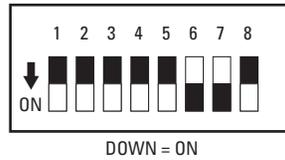

Figure 2. KBD300A Switch Settings: DX4500/DX4600 Operation
- 3 **Keyboard Data and DIP Switch Cover:** Contains the keyboard configuration switches. Use the switches to configure the keyboard address and operational mode (refer to Figure 2).